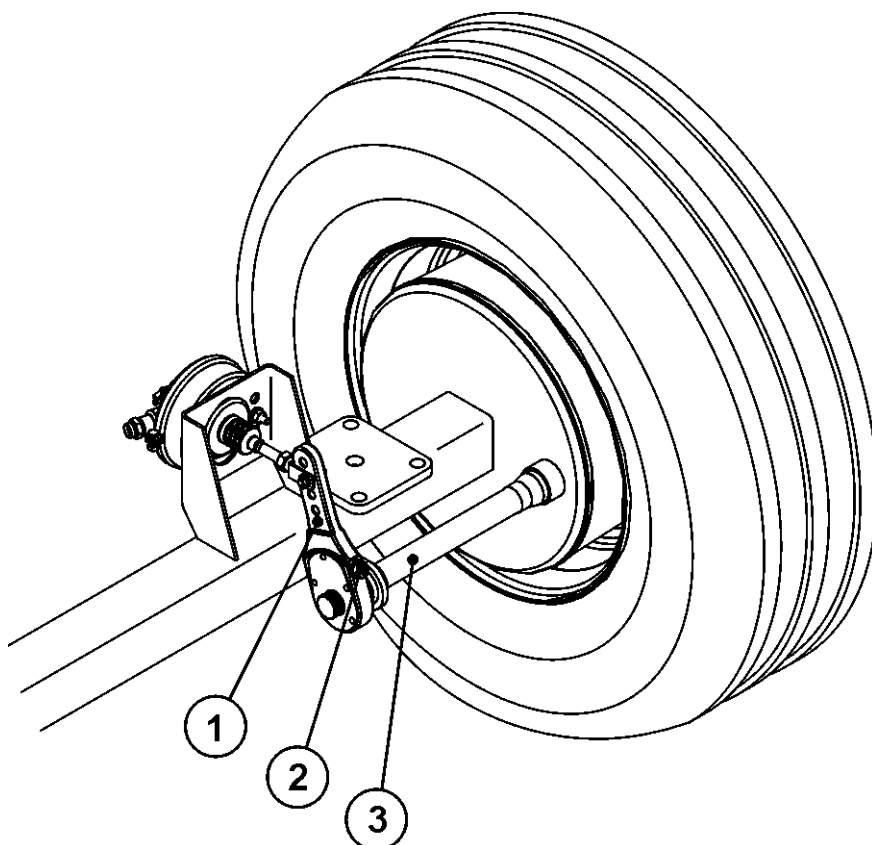

FIGURE 15. Elements of regulation of brakes
Regulation of brakes consists in changing of position of the arm of the expander (1) (figure 15) against the shaft of the expander (2). To this aim you must, loose the nut (4), and next shift the arm of the expander on the multi-grooved ending of the shaft (2) in the proper direction, that means: